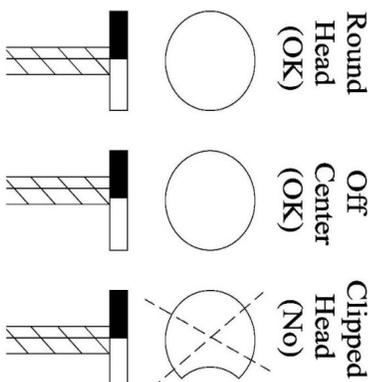

FIGURE 1.
4. Full round head ϕ ; No clipped-head nails, common nails or staples shall be allowed. Refer to Figure 1.